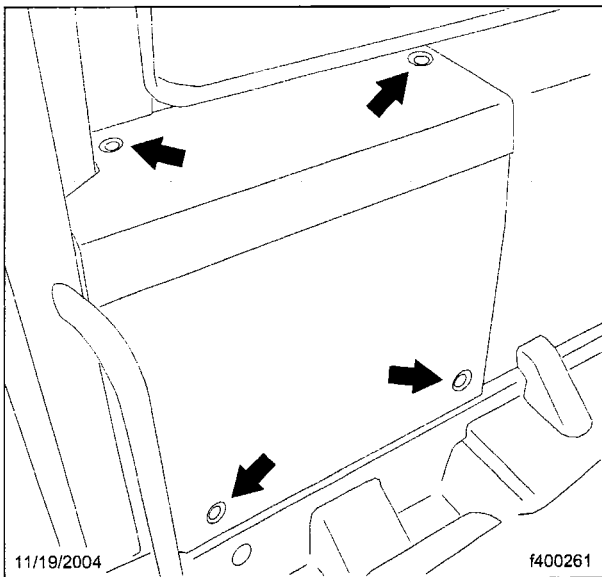

Fig. 11, Electrical Cover Fasteners
2. Remove the cover from the electrical compartment. See Fig. 11.